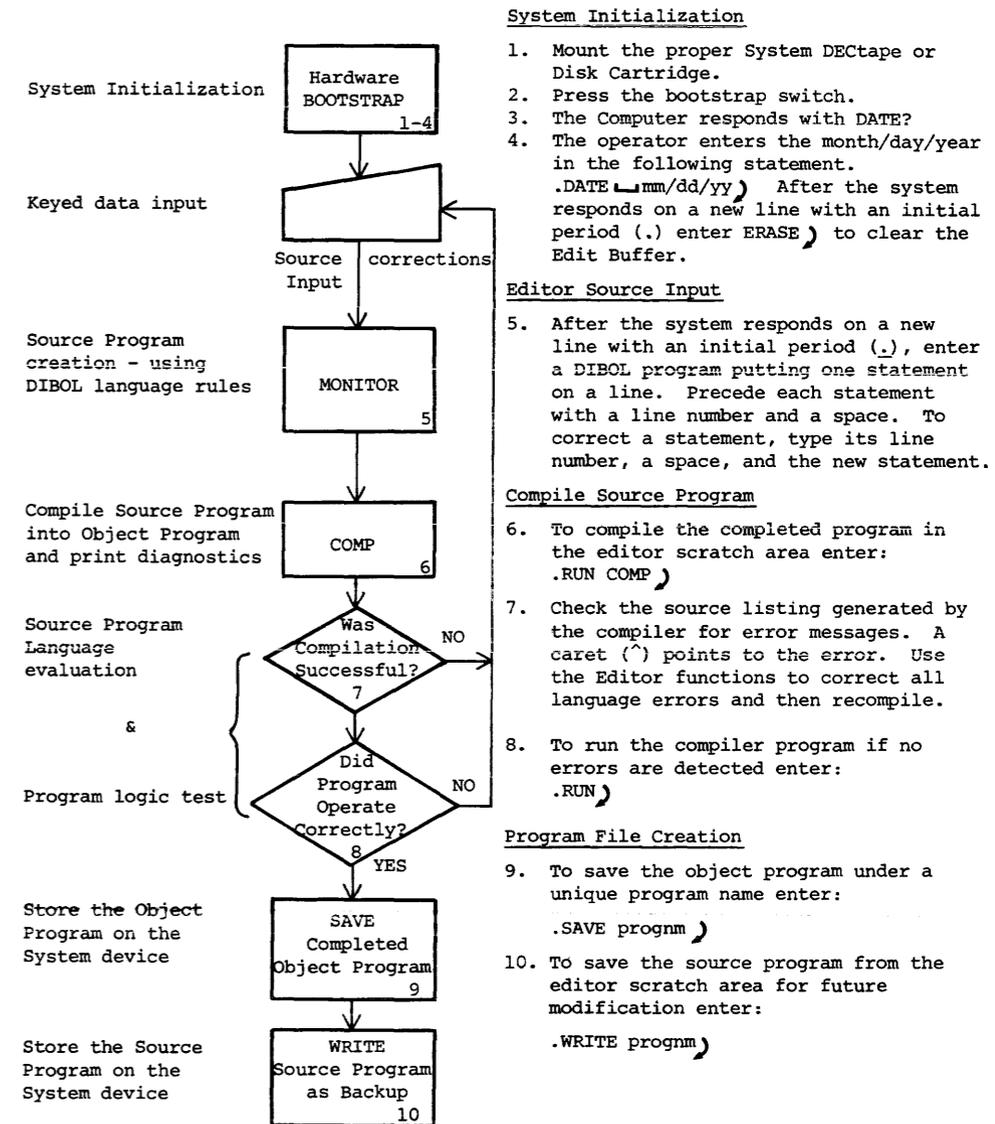

Figure 1-1
There are several fundamental operating steps required to convert your documented program logic into machine usable binary code. Using a properly activated (powered-up) DEC DATASYSTEM Computer, you must first load the central processor's memory with the COS 300 Monitor program. This system initialization is activated by the Hardware Bootstrap Switch, but only after you have correctly installed the System DECTape or Disk Cartridge on the drive addressed as zero. Refer to steps 1 and 2 in Figure 1-1. This figure presents the basic operating steps as: major operating categories, an operational flow diagram, and specific operating steps (1-10). The major operating categories are as follows:
Study Figure 1-1 and then answer the following questions.
26. QUESTION: From Figure 1-1, what operator step or steps are necessary to accomplish this initialization?
Review step 5 in Figure 1-1. The Monitor provides editing commands to input and manipulate Source Program statements in a temporary storage area (edit buffer) within memory. They include:
27. QUESTION: Using Figure 1-1, which of the above commands is used as a prerequisite to program text entry?
28. QUESTION: From Figure 1-1, when an error message occurs at step 7, what steps must be taken to correct it?
ANSWER: Steps 5, 6 and 7 in Figure 1-1 must be repeated to correct the error. You should correct all known errors before step 6.
29. QUESTION: From Figure 1-1, when the program fails to perform properly with test parameters what steps must be taken to modify it?
30. QUESTION: From Figure 1-1 which of the above mentioned Monitor commands is used to save the compiled binary program?